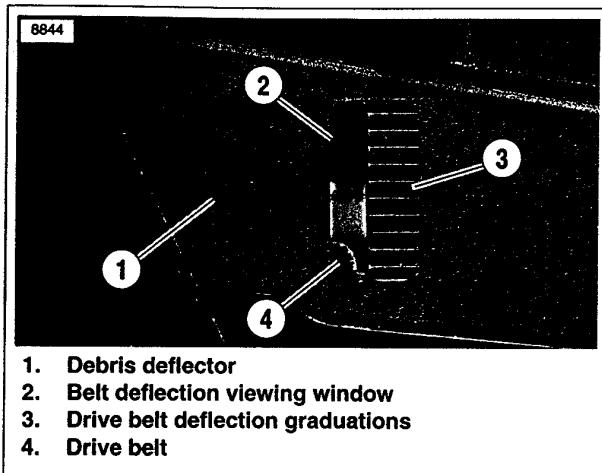
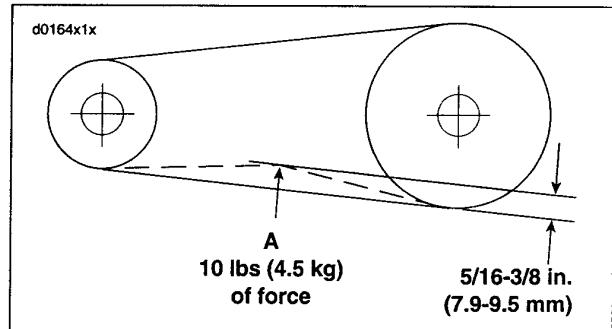

Figure 1-36. Belt Deflection Window
Figure 1-37. Checking Belt Deflection
3. See Figure 1-37. Check that the drive belt bottom strand deflects $5\frac{1}{16}$ - $\frac{3}{8}$ in. (7.9-9.5 mm) while applying 10 lbs (4.5 kg) of force upward at point A.
- a. Slide O-ring (4) toward 0 ft-lbs (0 kg) mark (3).
- b. Fit belt cradle (2) against bottom of drive belt halfway between drive pulleys (point A in Figure 1-37.).
- c. Press upward on knob (6) until O-ring slides down to 10 ft-lbs (4.5 kg) mark (5).
- d. See Figure 1-36. Measure belt deflection as viewed through deflection viewing window (2) while holding gauge steady. Deflection graduations (3) are $1/8$ in. (3.2 mm) apart.